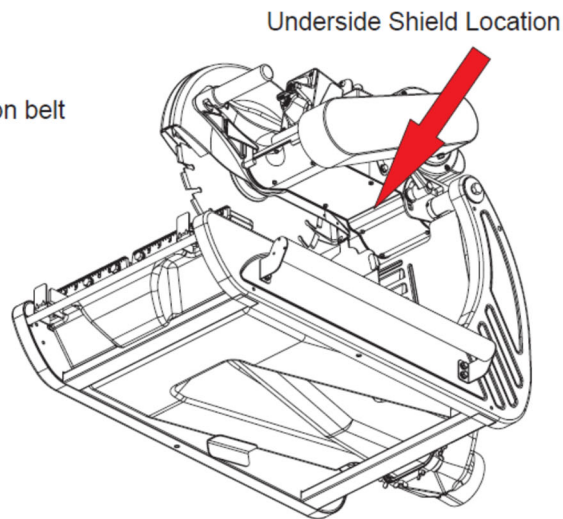

Figure 5-2: Underside Shield Location
3. Remove the shield located underneath the cutting head (see Figure 5-2: Underside Shield Location).